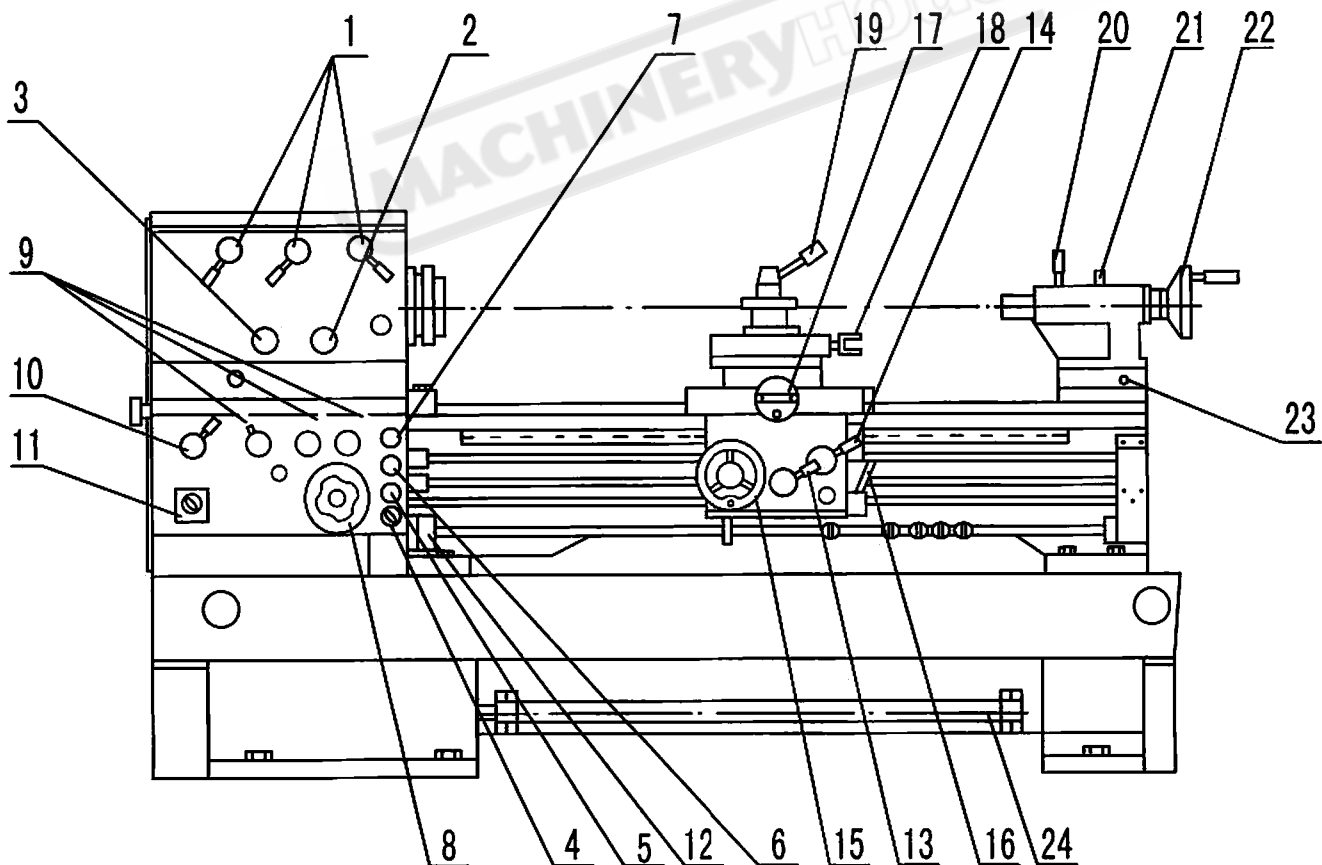

Fig.4
1. **Headstock Geat Change Levers** (1, Fig.4)-Located on the front of the headstock at the top. Move levers according to the chart to desired spindle speed.
2. **Leadscrew/Feedrod Directional knob** (2, Fig.4)-Located on the front of the headstock. Turning the knob causes carriage travel toward the headstock or the tailstock. Do not turn the knob while machine is running.
3. **Feed/Lead Selector lever** (3, Fig.4)-located on the front of the headstock, Used whenever setting up for threading or feeding.
4. **Coolant on-off Switch** (4, Fig.4)-located on the front of the gear box. Turns coolant pump on and off.
5. **Eergency Stop Switch** (5, Fig.4)-located on the front of the gear box, Depress to stop all machine functions.
6. **Jog Swich** (6, Fig.4)-Depress and release to advance spindle momentarily.
7. **Power Indicator Light** (7, Fig.4)-Lit whenever lathe has power.
8. **Feed/lead Rate Selector Hand Wheel** (8, Fig.4)-Located on the front of the gear box Used in setting up for feeding and threading.
9. **Feed/Lead Rate Selector lever** (9, Fig.4)-located on the front of the gear box. Used in setting up for feeding and threading.
10. **Change Gear Lever** (10, Fig.4)-located on the front of the gear box. Used in setting up for feeding and threading. Moving the change gear lever to cut all kinds of inch (metric) and DP (MP) threads in the feed and thread tables with no change gears to replace. It's more easier to cut thread.
11. **Power Swith** (11, Fig.4)-Located on the front of the gear box. Turns main power to lathe on and off.
12. **Longitudial Touch-Stop Hand wheel** (12, Fig.4)-Located on the right side of the gear box. Turning the hand wheel to change the position of auto carriage stop.
13. **Auto feed on-off Lever** (13, Fig.4)-located on the front of the apron. Move the lever up, auto feed is on. Move the lever down, auto feed is off.
14. **Feed selector and Half Nut Engage Lever** (14, Fig.4)-Located on front of the apron assembly. Move the lever down to engage, thread can be cut, (Note: The auto feed on-off lever must be moved down). Move the lever up to active the crossfeed and the longitudinal functions. (Note: The auto feed on-off lever must be moved up.)
15. **Longitudinal Traverse Hand Wheel** (15, Fig.4)-Located on the apron assembly. Rotate hand wheel clockwise to move the apron assembly toward the tailstock (right). Rotate the wheel counter-clockwise to move the apron assembly toward the headstock (left).
16. **Spindle Forward/Reverse Selector Lever** (16, Fig.4)-Move the lever down or up to change the spindle rotation direction.
17. **Cross Traverse Hand wheel** (17, Fig.4)-Located above the apron assembly. Clockwise rotation moves the cross slide toward the rear of the machine.
18. **Compound Rest Traverse Handwheel** (18, Fig.4)-Located on the end of the compound slide. Rotate clockwise or counter-clockwise to move the position.
19. **Tool Post Clamping Lever** (19, Fig.4)-located on the top to the tool post. Rotate counter-clockwise to loosen and clockwise to tighten.
20. **Tailstock Quill Clamping Lever** (20, Fig.4)-Located on the tailstock. Lift up to lock the spindle. Push down lever to unlock.
21. **Tailstock Clamping Lever** (21, Fig.4)-located on the tailstock, Lift up lever to lock. Push down lever to unlock.
22. **Tailstock Quill Traverse Handwheel** (22, Fig.4)-Located on the tailstock. Rotate clockwise to advance the quill. Rotate counter-clockwise to retract the quill.
23. **Tailstock off-set Adjustment** (23, Fig.4)-a hex socket cap screw located on the tailstock base is used to off-set the tailstock for cutting tapers.
24. **Foot Brake** (24, Fig.4)-Located on the one piece cast iron base. Depress to stop all lathe functions.